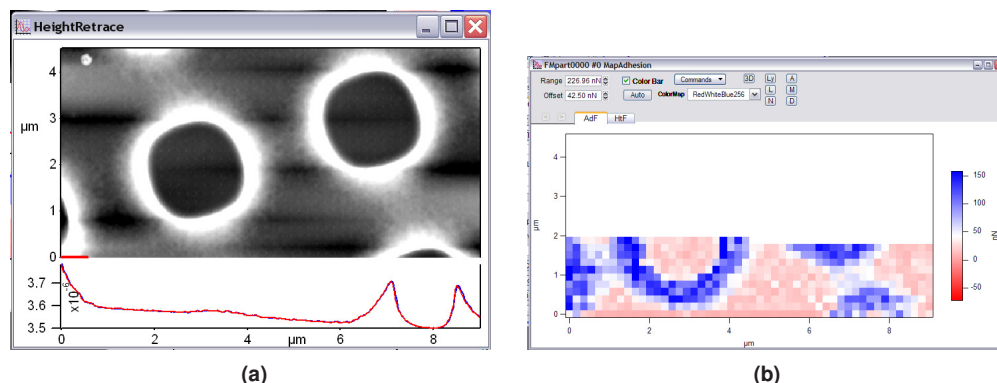

Figure 18.20.: Screen shots of real time force map acquisition. Pixels are updated after each subsequent acquisition.
7. Select the appropriate data inputs in the Calc Sub Tab. The defaults are Height and Adhesion. You can also swap out Adhesion for a 2-Point Modulus Fit. But it is important to note that the full fit cannot be done in Real Time; the user will have to wait until after the entire Force Map has been acquired before using the Elastic Tab. Something that looks like an MFP-3D 'Display Window' appears during acquisition, with tabs that correlate to what Channels that are selected in the Calc. Sub Tab (See Figure 18.20 on page 251).